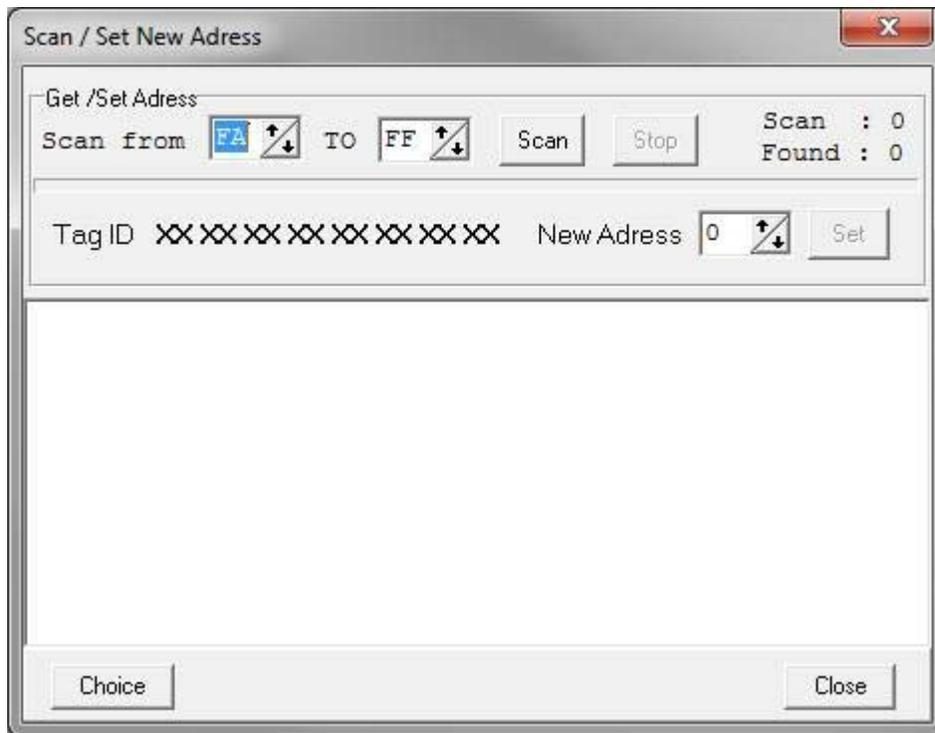

Figure 2-7. Scan/Set New Address Dialog Box
- c. Click on the **Scan** button. The Scan/Set New Address dialog box appears (see Figure 2-7)